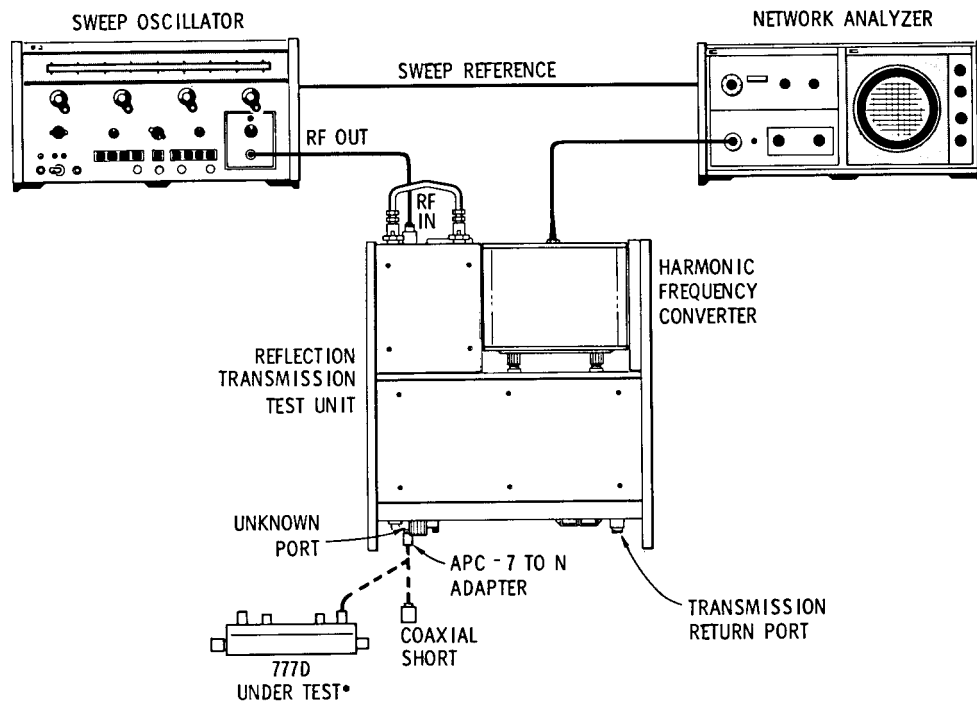

Figure 6 SWR Test Setup
Description Refer to Figure 6 on page 14 for test setup and Table 2 on page 6 for test equipment.
1. Connect equipment as shown in Figure 6 with appropriate adapter and coaxial short connected to the unknown port.